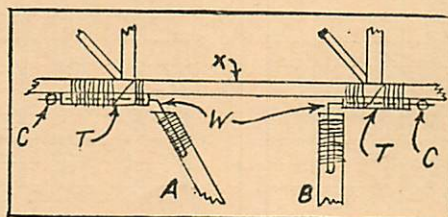
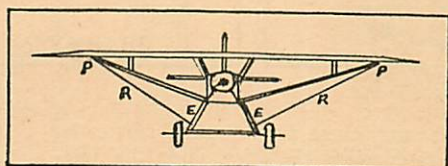

Fig. 1
Fig. 3
The drawing (fig. 1) is a sketch of the propeller in the folded condition caused when it is no longer producing a forward thrust. However, when the model is flying under its own power, the propeller looks and acts exactly the same as if it was one solid piece instead of three hinged together. The air striking the blades on the forward side causes them to fall back as indicated; (fig. 1).
It will be noticed that there are two left and two right for each joint. Obviously, a two-bladed propeller will require eight of the wire fittings; four left and four right. They are assembled as shown in fig. 1 and fig. 3, with the prongs of the blade fitting inside those of the boss to prevent side-play. A wire (the diameter of the eyes of the pieces just formed) is passed through the loops or eyes along line AB, fig. 1. The ends are bent over or a drop of solder is put on each end of the wire after it is in place. Two of these are required. The wire hinges should be firmly cemented in correct position to the balsa parts.
Here is how it is made. The landing gear is the main thing involved. In fig. 1 is a side view sketch showing how the landing gear should be attached. A and B are the landing struts, to which wire (W) is glued and threaded as shown. A part of the wire, bent to the correct angle, is inserted into a piece of aluminum tubing (T), which is glued and threaded to the fuselage longeron (X). At the end of the wire is glued a bead (C) to hold the wire from slipping out. So far, one can see that the main idea is to have the landing gear so that it can swing on the wire axles from side to side.
Now while the landing gear is in the correct position, tie two threads (R) tightly on each side of the plane as follows: one from a point (E) on strut (A) to a point (P) on the wing, (see fig. 3); and one from a point (E) on strut (B) to the same point (P) on the wing.